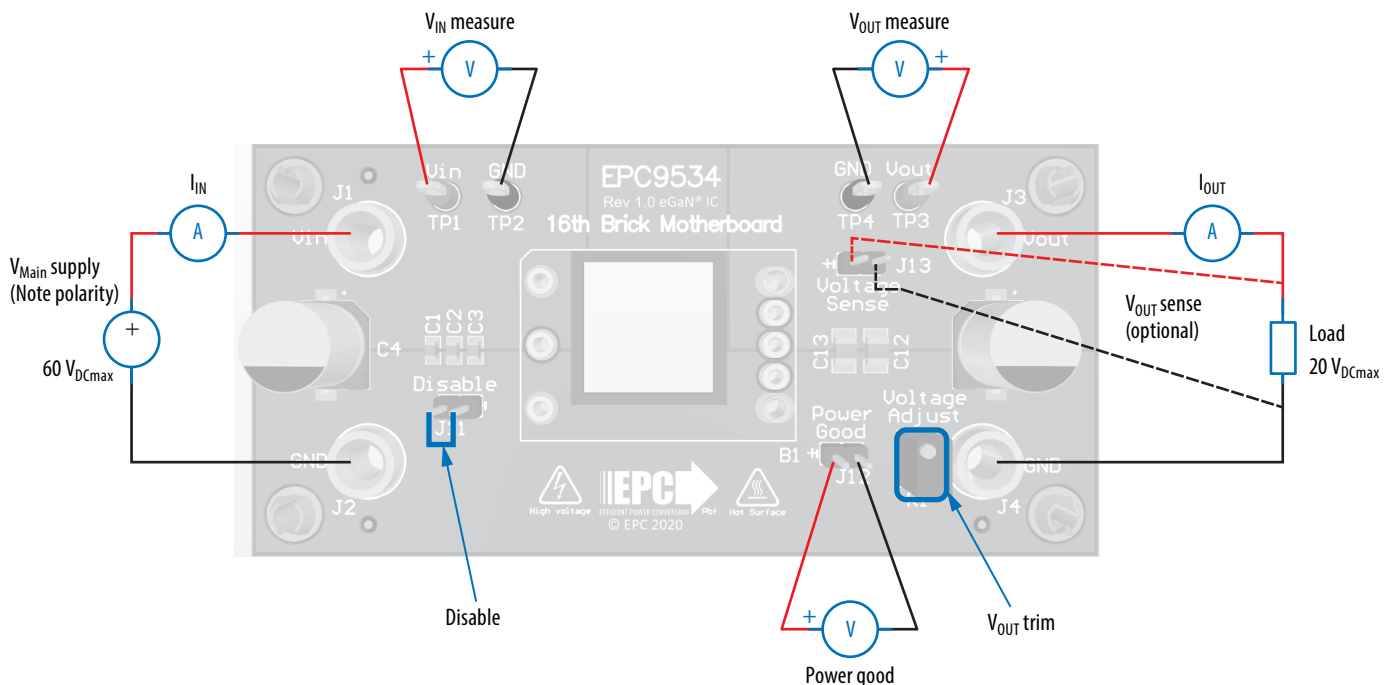

Figure 1. Example measurement setup: Top view of EPC9534
Figure 1 shows an example configuration and measurement setup.
2. With power off, connect the power supply, load, and multimeters according to figure 1:
- d. (Optional) V_{out} sense (J13) to load terminals, shown as dashed lines in figure 1.